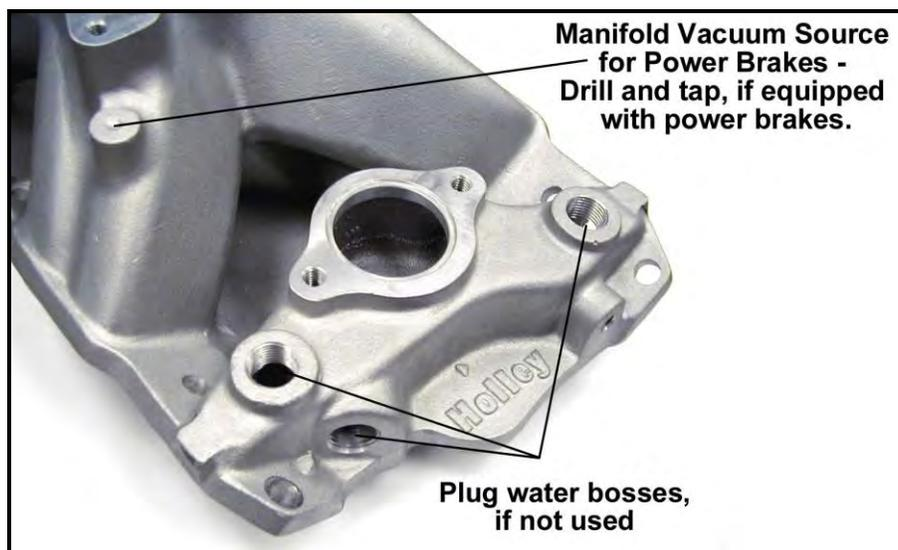

Figure 1
NOTE: If the vehicle is equipped with power brakes, the power brake boss on runner #2 must be drilled and tapped. The tap size is 1/4-18 dryseal. Figure 1.
19. Ensure that all unused water fittings and vacuum ports are properly plugged. See Figure 1.